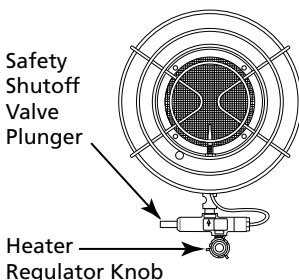

Figure 5 - Safety Shutoff Valve Plunger and Heater Regulator Knob (Front View)
3. Turn heater regulator knob counterclockwise to the "HI" position (see Figure 5).